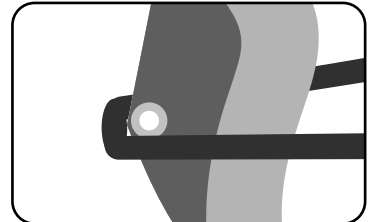

Figure 4: Outhaul sail to the end of the boom
- d) Outhaul your sail to the end of the boom (figure 4).